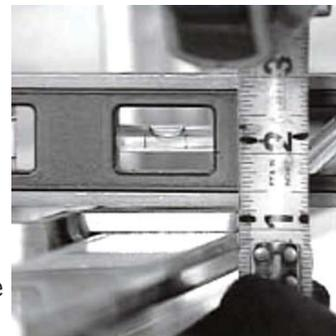

Figure 8
9) See **Figure 8**. At the front of the trailer, place the spacer mentioned in Step 11 on top of the aluminum rail. Place a level across the spacer to the deck of the trailer. Use a rubber mallet to adjust the rail up or down to level and front to back to align with the vertical line.